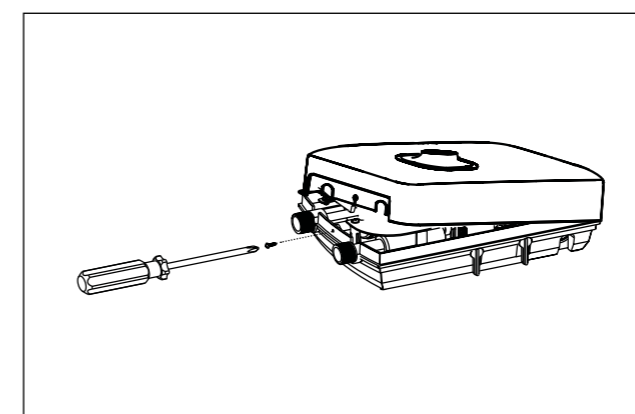

Fig. 3
- Remove plastic cover. (Fig. 3)